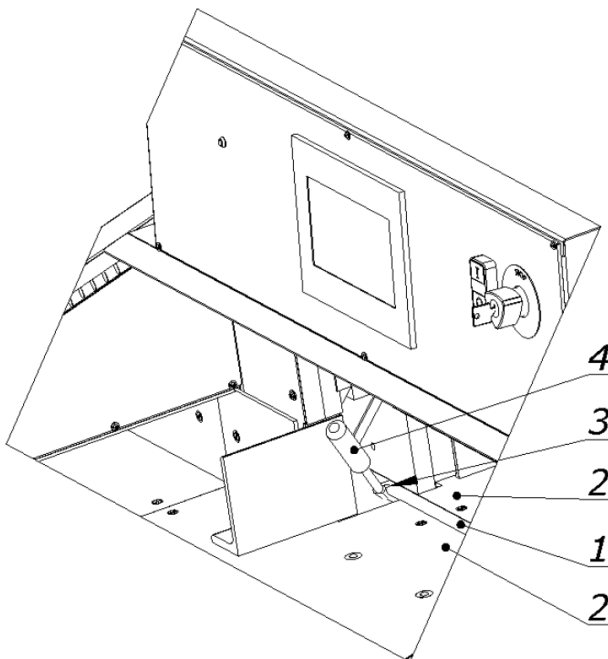

Figure 37 Removing the cutting stick.
8.2.1 Lift the cutting stick 1 with a screwdriver 4 (fig. 37)
8.2.3 Insert the replaced stick into the channel between the tables 2 and place it on the dowel 3 (Fig. 37)